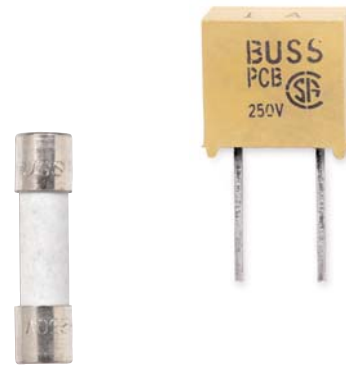

Figure 4. Eaton's Bussmann Series S501-2-R and PC-Tron Fuses
- F2 & F3: RoHS compliant PC-Tron fast-acting PCB through-hole fuse rated up to 250 Vac/450 Vdc. (Product codes PCB, PCC, PCD, PCE, PCF, PCH and PCI.) (Figure 4)